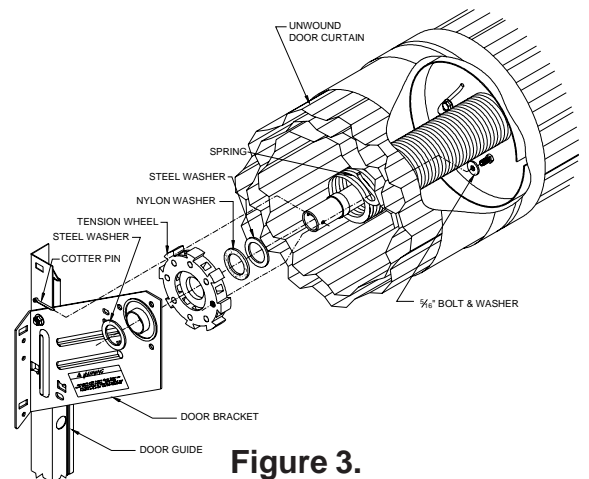

Figure 3.
5. Reinstall the spring/tensioner assembly according to Figure 3. Attach bracket to wall and guide. Reinstall cotter pin.